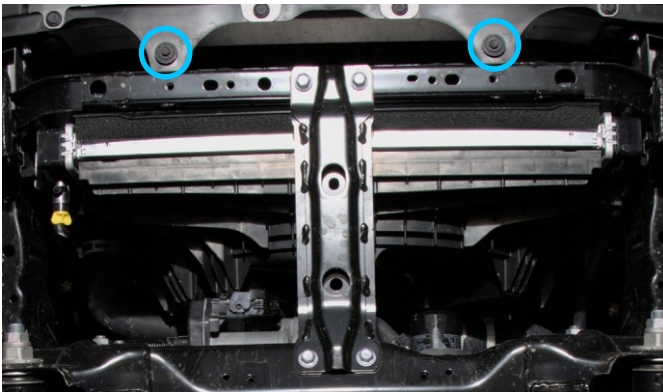

Fig. 3
3. Remove factory bolts as shown in Fig.3.